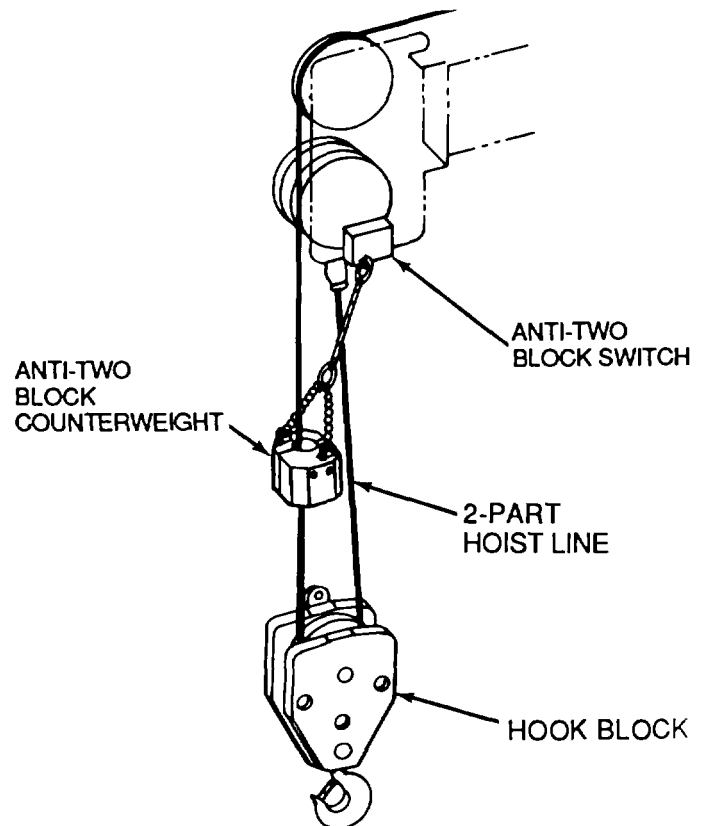

Figure 5-2. Anti-Two Block Counterweight, Switch and Hook Block
2. Remove anti-two block counterweight (Figure 5-2) as follows: